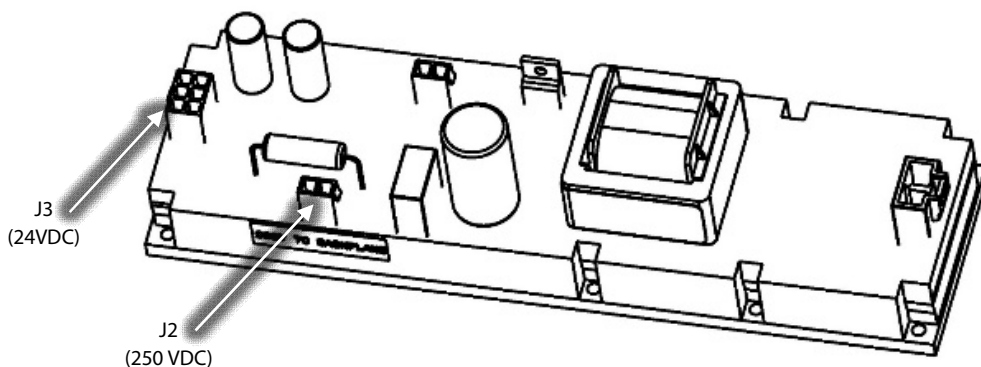

Figure 4 – Potted DC-DC Converter
6. Disconnect the 24 and 250VDC output from the DC-DC. Refer to Figure 4 (Potted DC-DC Converter) or Figure 5 (Open Frame DC-DC Converter) depending on the installed DC-DC Converter.